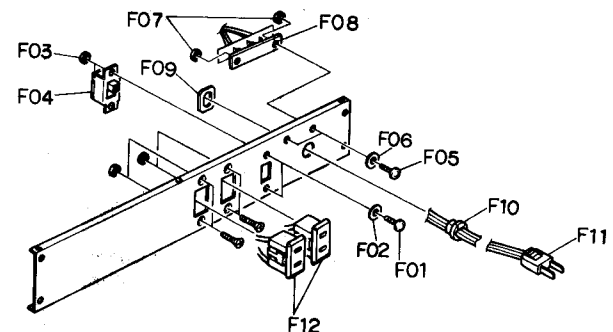

Fig. 7.5
Refer to Fig. 7.5. Remove Front Panel and Case Covers referring to item 7.1, then remove Rear Panel Ass'y referring to item 7.2. Remove F01, F02 and F03, then F04 (Slide Switch). Remove F05, F06 and F07, then F08 (3P Terminal). Remove F09 and F10, then F11 (Power Cord). Remove F12 (Outlets).